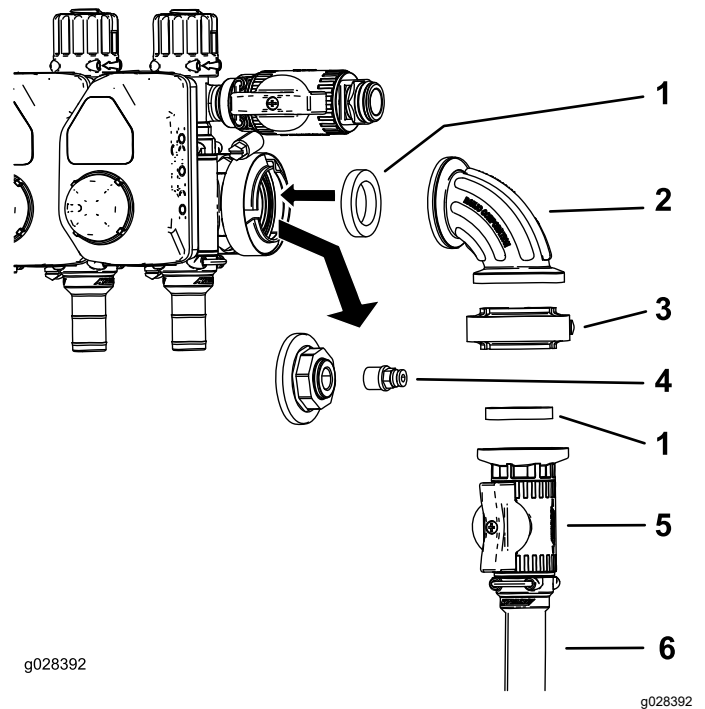
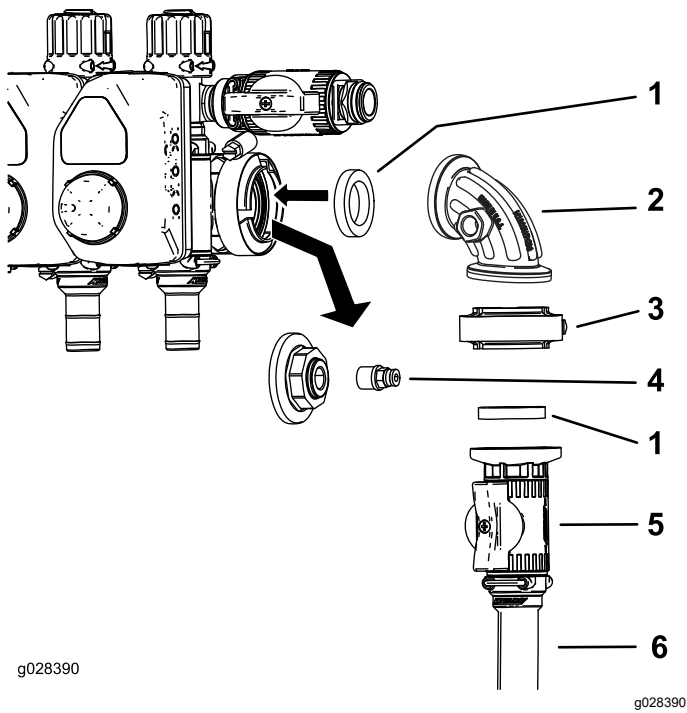

Figure 7
Figure 8
1. Remove the flange clamp that secures the end cap and coupler at the pressure-gauge port (Figure 7 or Figure 8).
2. Remove the coupler from the end cap (Figure 7 and Figure 8).
3. Install the control valve assembly as shown in Figure 7 or Figure 8.
4. Install the coupler into the open port on the 90-degree fitting (Figure 7 or Figure 8).
Note: The port in the side of the 90-degree fitting for the Multi Pro 1750 and Multi Pro WM is at the forward side (not shown) of the fitting in Figure 7.
5. Connect the hose-reel supply hose to the control valve using a hose clamp (Figure 7 or Figure 8).